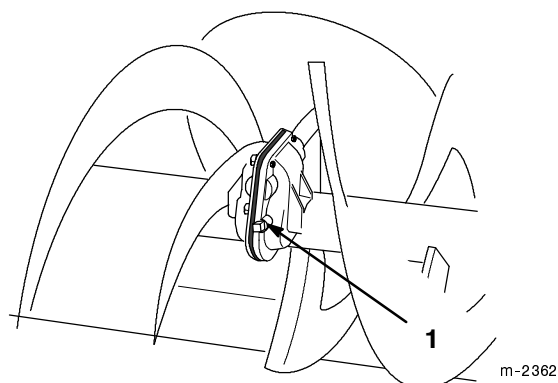

Figure 38
2. Clean area around plug with a rag and remove plug (Fig. 38).
3. Add SAE 90 gear oil until level with bottom of hole in housing (Fig. 38).